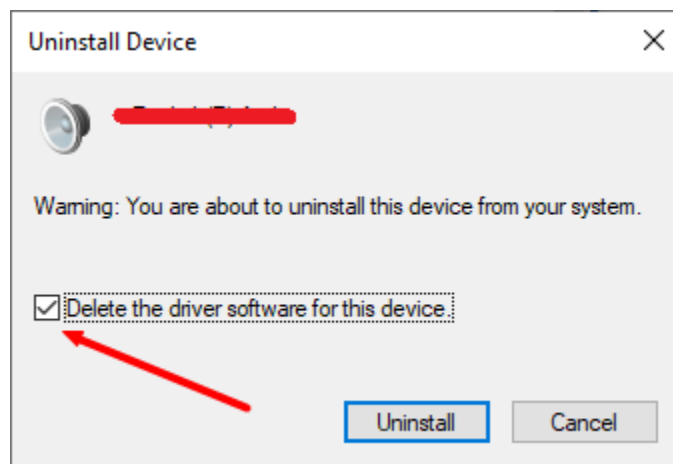

Figure 6.2. Uninstall Old Drivers if Needed
5. You need to uninstall device and delete the old version driver, if it is previously installed. After that, install the new version driver for this device. Refer to Figure 6.2.
11. The computer is rebooted to proceed to install unsigned drivers. You need to uninstall the device and delete the driver that was previously installed, if you updated the driver for that device (Figure 6.2).